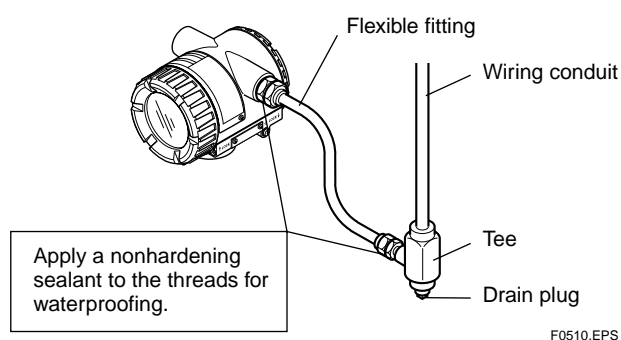

Figure 5.11 Typical Cable Wiring Using Flameproof Packing Adapter
■ Wiring cable through flameproof packing adapter for only JIS flameproof type (see Figure 5.11)